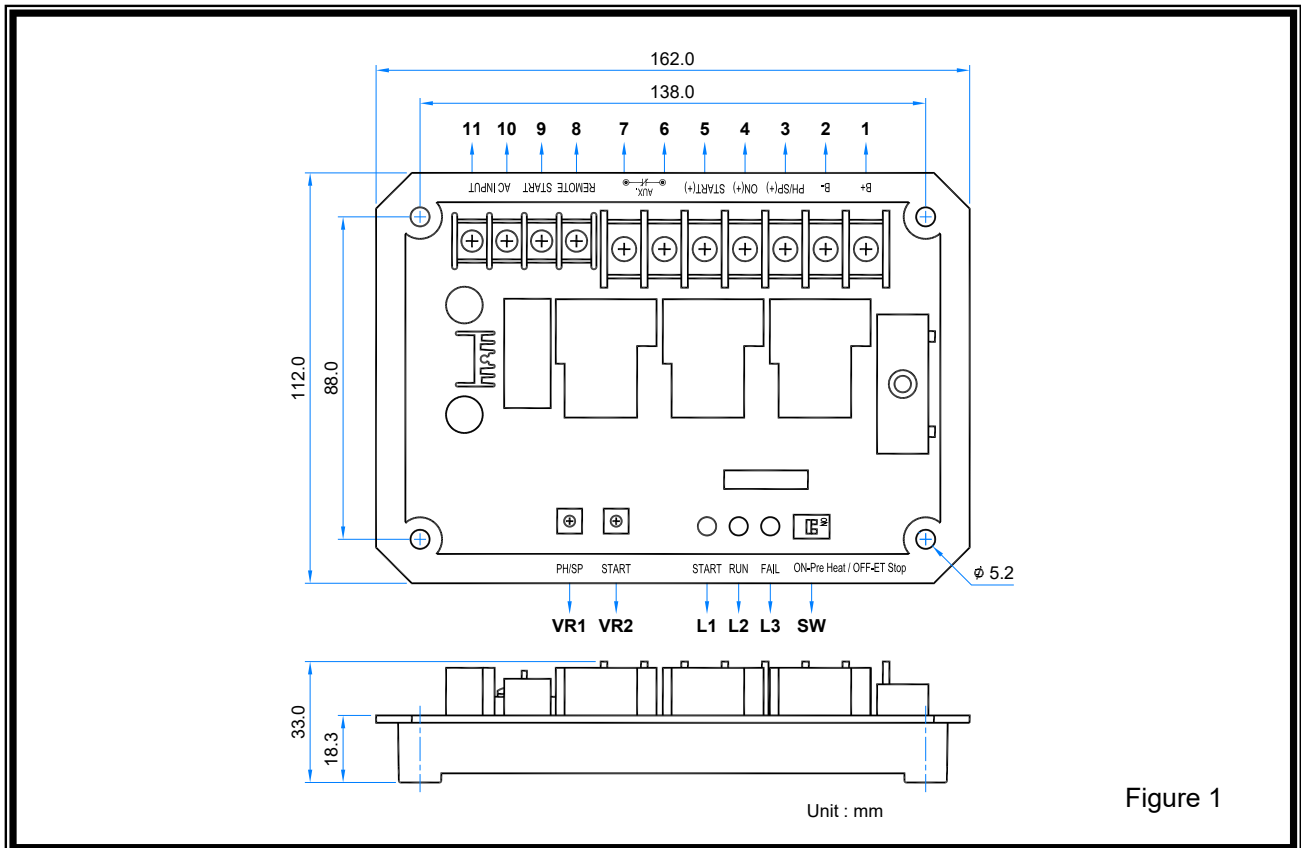

Figure 1
- VR1 : Pre-heat engine timer adjustment 1 – 25 seconds range - factory set for 5 seconds (Please refer to Figure 1 below).
- VR2 : Starter cranking time adjustment 1 – 25 seconds range - refer to the generator user's guide 4 – 8 seconds suggested. (Please refer to Figure 1 below).
- L1 : Remote start activated indicator LED. (Please refer to Figure 1 below).
- L2 : Engine running normal indicator LED. (Please refer to Figure 1 below).
- L3 : Start fail indicator LED. (Please refer to Figure 1 below).